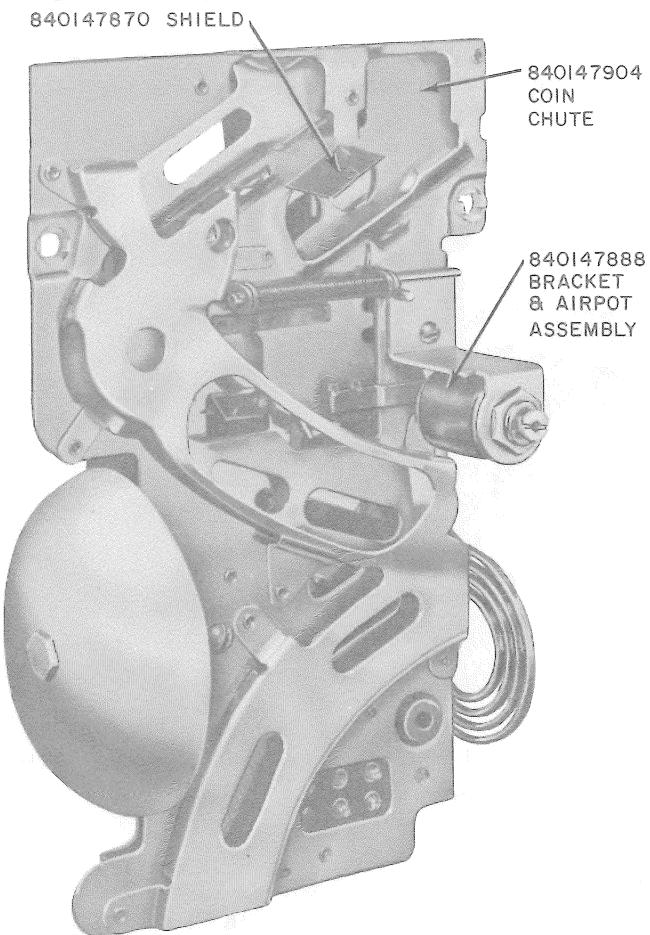

Fig. 11—840148175 Fraud-Resistant Gong Signal and Chute Assembly
2.20 An 840148175 gong signal and chute assembly (Fig. 11) is available to provide increased fraud resistance. It is compatible with all 196-, 197-, and 200-type multislot coin collectors except the 1234G TOUCH-TONE® coin collector.